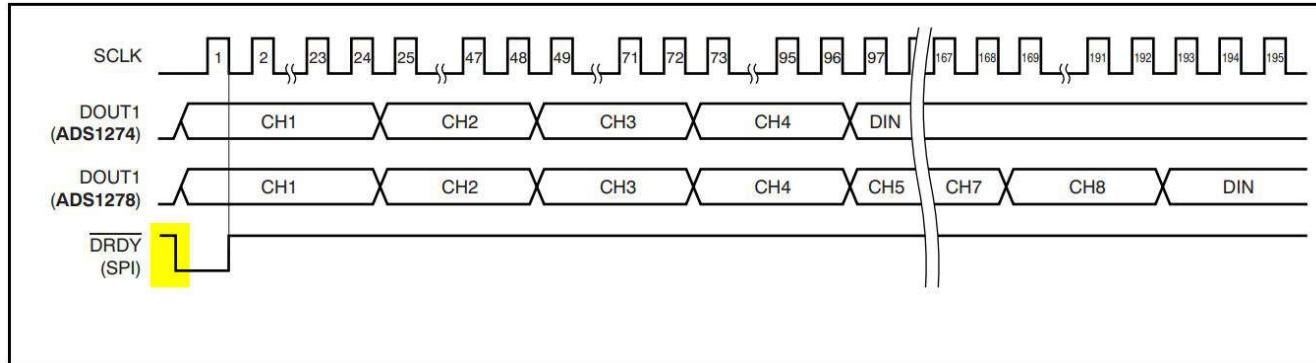

Figure 2-11. ADS1278 DRDY Pin Behavior
5. Connect an I/O pin from the controller to the DRDY pin on header J6 on the EVM. DRDY is an output from the ADC, indicating when new data are ready to be clocked out of the ADC. As shown in Figure 2-11, the user-defined data collection routine monitors this pin (polling or interrupt) and only transfers data after a falling edge.